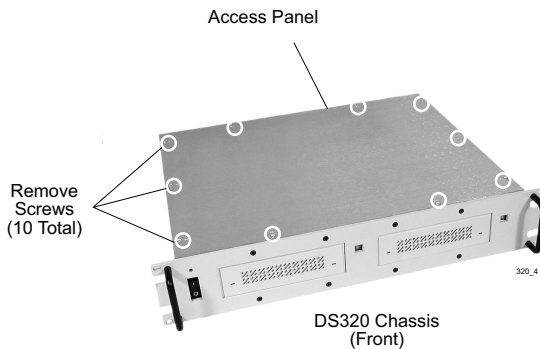
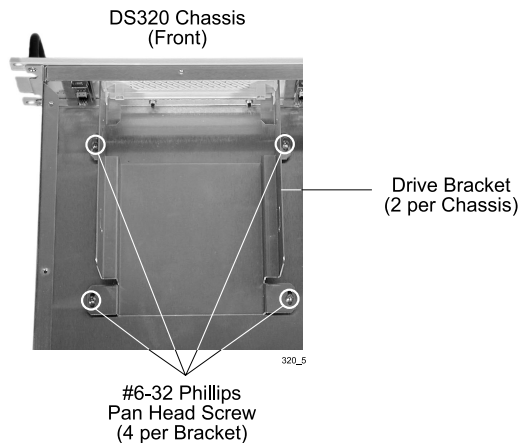

Figure 4: Access Panel
Figure 5: Removing the Drive Bracket
3. Remove the ten (10) screws located on the top of the unit (Figure 4).
NOTE: Removal of the access panel (Figure 4) and drive bracket (Figure 5) is required in order to install the drive(s). Once the drive(s) are installed into the bracket, the entire drive/bracket assembly can then be installed into the chassis.
1. Remove the access panel (Figure 4).
2. Remove the four (4) screws securing the drive bracket to the chassis (Figure 5).